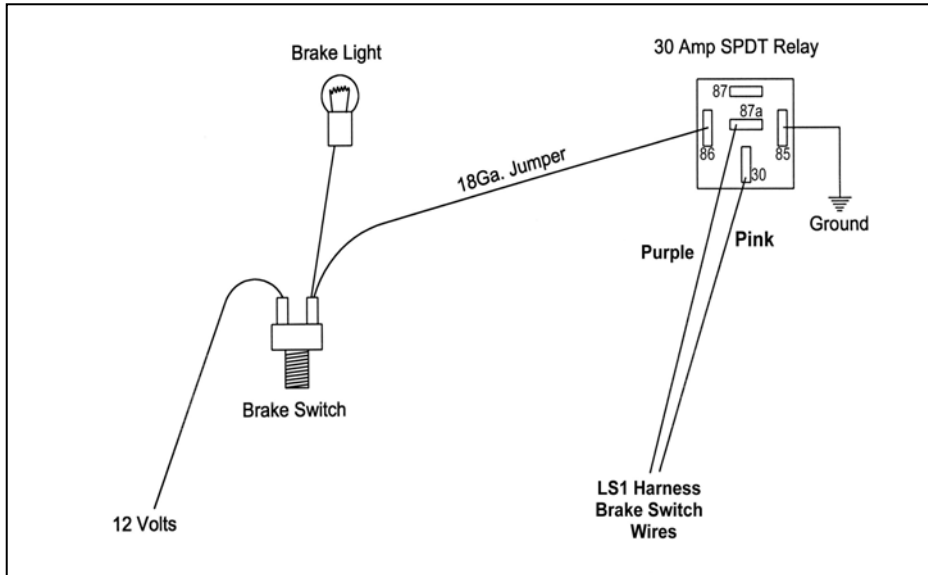

FIGURE 6.3 Brake Switch Relay
G. If your vehicle has a pressure type brake switch, you may use a relay as shown in **Figure 6.3**. The relay must be a **SPDT Relay** and wired correctly or it could result in a dangerous situation with the vehicle. The torque **converter may not unlock**.